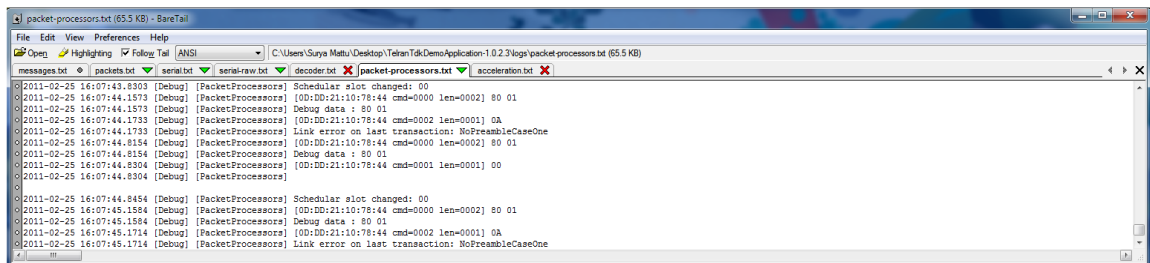

Figure 14 Logs showing Base station looking for target
- To view the logs click on the logs button. This opens up Baretail and to view the basestation logs click on the packet-processors.txt tab Figure 14.